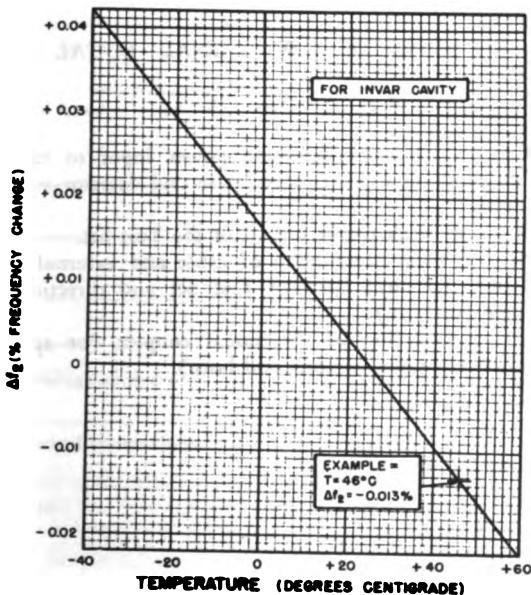

Figure 3-16. Frequency Meter Corrections for Dimensional Changes Due to Temperature
b. DETERMINE CORRECTION FOR DIMENSIONAL CHANGE. (Use figure 3-16.)